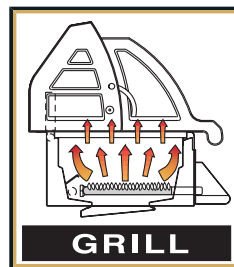

Fig. 15a
- The powerful **Main burners** deliver the middle and high range of temperatures desired for traditional barbecuing. This includes searing and finishing steaks, hamburgers, pork chops and the like, or grilling chicken parts, sausages, or kebabs with more moderate heat (see Fig. 15a).